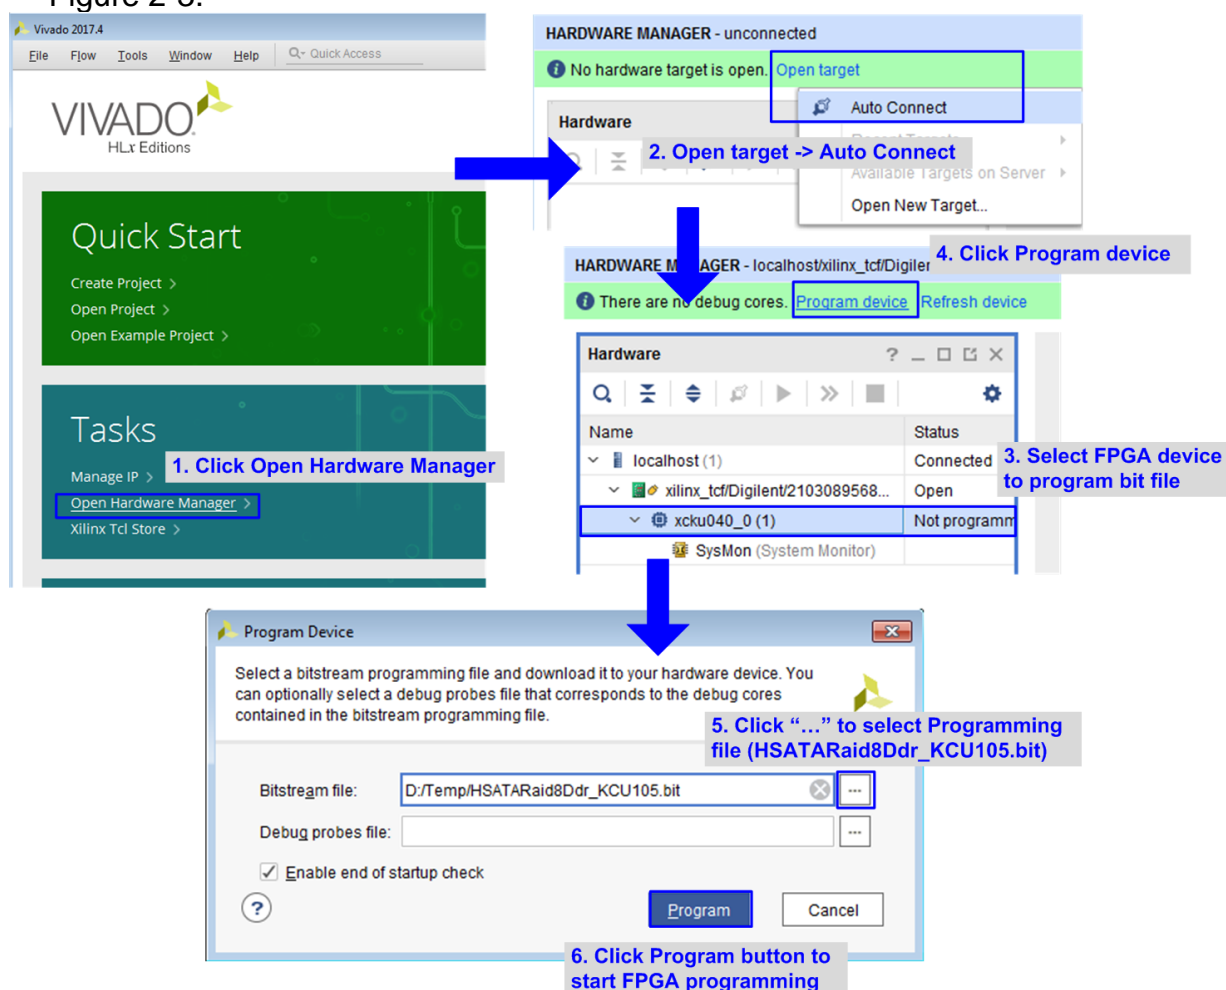

Figure 2-3 Programmed by Vivado
- 8) Use Vivado tool to download configuration file which includes CPU firmware, as shown in Figure 2-3.